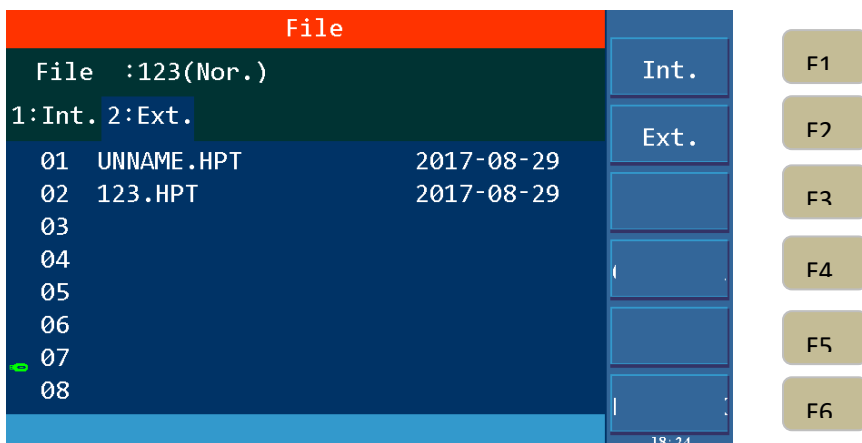

Figure4-24 External File Interface
1. Press **[[FILE]]** key to enter the file management interface, as shown in Figure 4-24.